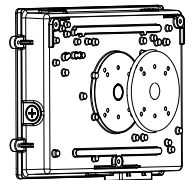

Figure 26
6. Attach the included EVA foam gasket onto the back plate. (see Fig. 26)